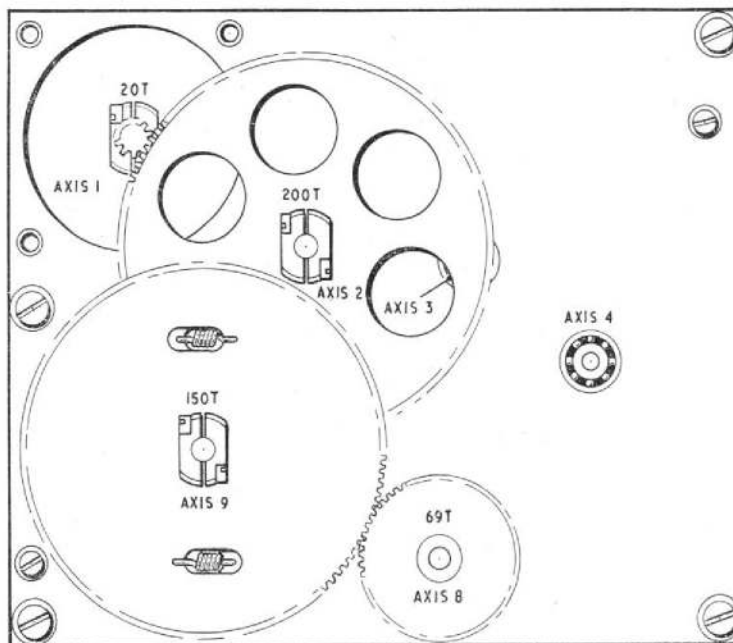

Fig. 14. True air speed gearbox (G7)—underside
**121.** Check that when the 200T gear of axis 2 (fig. 14) is displaced one turn against the servo action and released it makes only one overshoot in each direction before coming to rest.